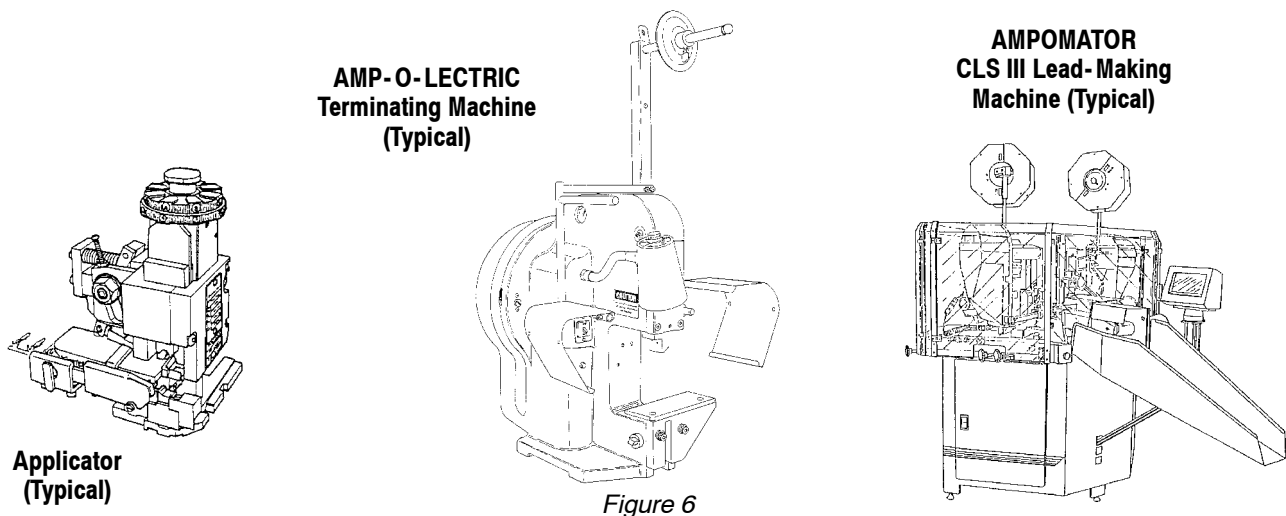

Figure 6
- Deleted obsolete tooling and related documentation in Paragraph 2.5 and Figure 6
Figure 6 shows applicators, machines, Applicator Instructions (408-Series), and Customer Manuals (409-Series) related to the Heavy Duty Burner Connectors.